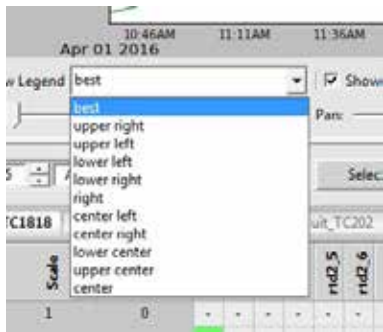
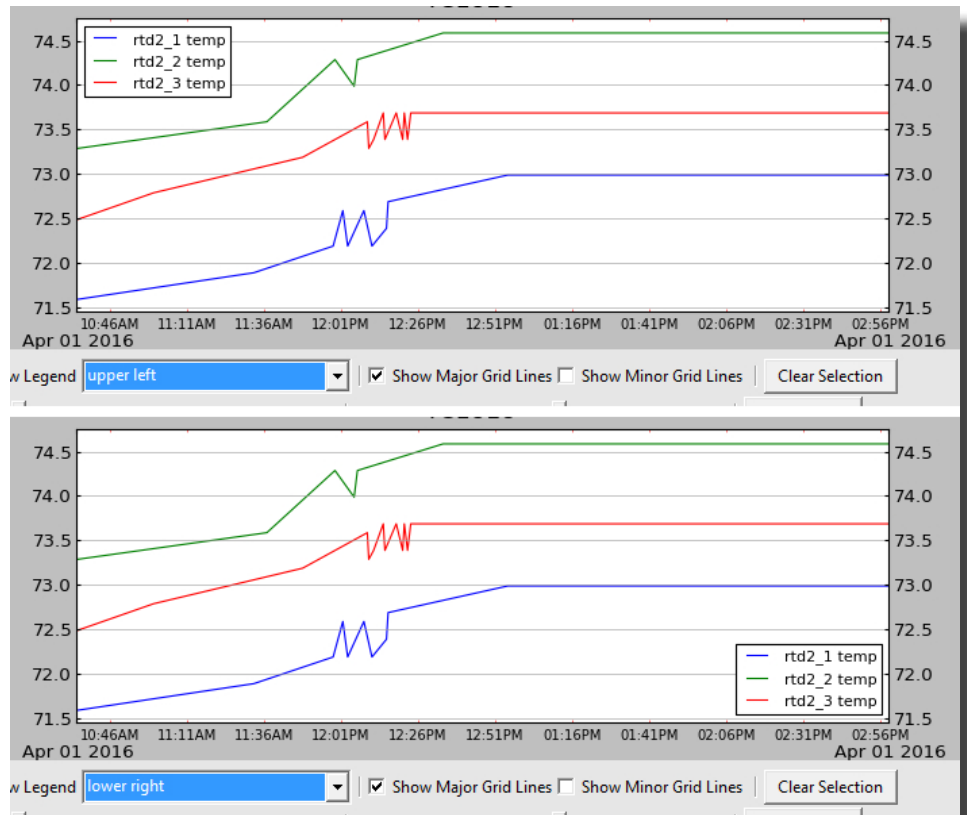

Figure 19: Trend Plotter - Dropdown List
Figure 20: Trend Plotter - Legend Position
- The app chooses the best position for the legend but other positions can be selected from the dropdown list (Figure 19). Figure 20 shows two examples of these positions.